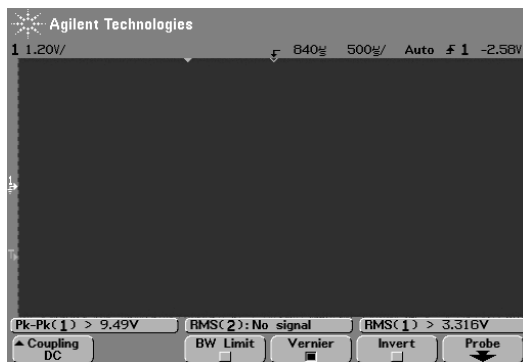

Figure 4-2: CW signal set to fill display
- Adjust the oscilloscope's timescale to 500 μs per division (for 400 Hz modulation). Adjust the amplitude level of the oscilloscope to just cover all eight divisions of the display with the RF signal (see Figure 4-2).